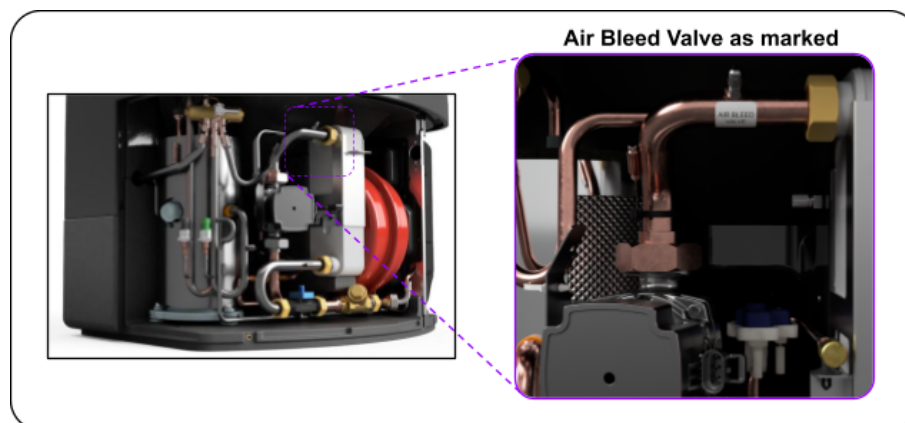

Figure 11.1 - Bleed Valve
5. To bleed the heat pump of any remaining air, a Schrader bleed valve is located above the circulating pump as shown in the diagram below. See *Figure 11.1*